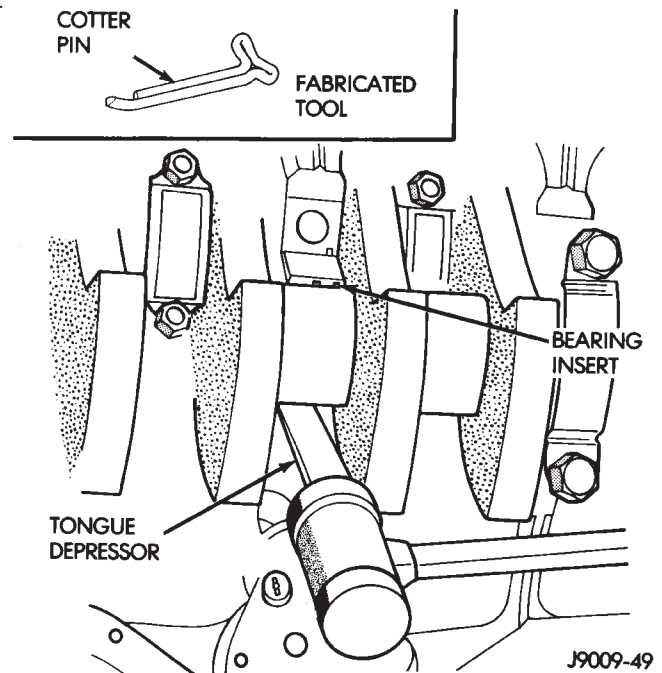

Fig. 2 Removing Upper Inserts
- (6) Remove the lower insert from the bearing cap.
- (7) Remove the upper insert by **LOOSENING (DO NOT REMOVE)** all of the other bearing caps. Now insert a small cotter pin tool in the crankshaft journal oil hole. Bend the cotter pin as illustrated to fabricate the tool (Fig. 2). With the cotter pin tool in place, rotate the crankshaft so that the upper bearing insert will rotate in the direction of its locking tab. Because there is no hole in the No.3 main journal, use a tongue depressor or similar soft-faced tool to remove the bearing insert (Fig. 2). After moving